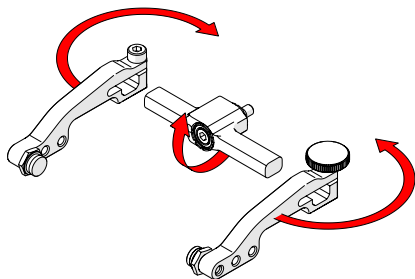

Fig. 60 - Flip yoke and reverse arms
3. Flip the yoke 180° and reverse the probe holder arms (Fig. 60).